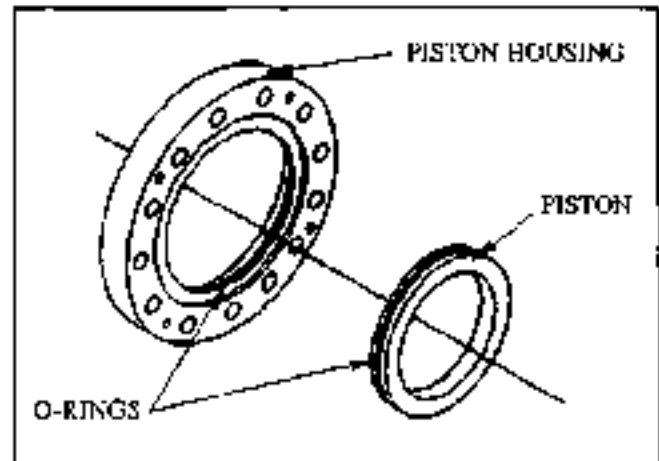

Figure 22
1. Tap the piston out of the outer piston housing. See Figure 22.
4. Coat the working surfaces with lubricant and insert the piston into the housing carefully. As the piston is edged past the "O" Ring in the housing, use a dull thin tool to seat the "O" Ring into the housing, being very careful not to shear the "O" Ring or back-up ring. Gently tap the piston into place. See Figure 22.